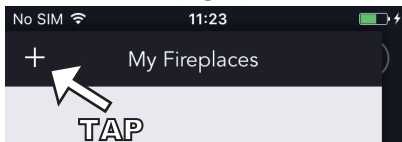
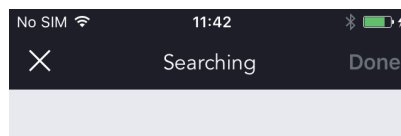

Fig. 2 Tap the “+” button (Top left)
Fig. 3 Searching Fireplace
4. Press “Add” (Fig. 2) button and start searching (Fig. 3) the Fireplace nearby